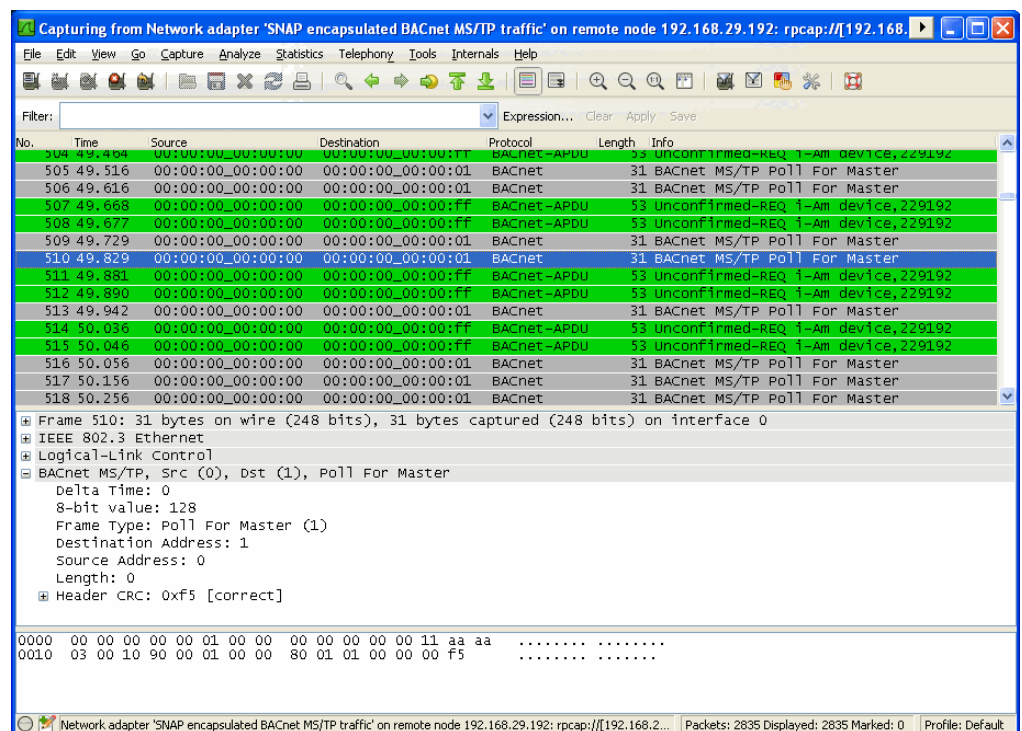

Figure 249: Example MS/TP remote capture in progress.
3. Wireshark will attempt to establish a connection to the device and, if successful, start displaying packets. An example capture is shown in Figure 249.